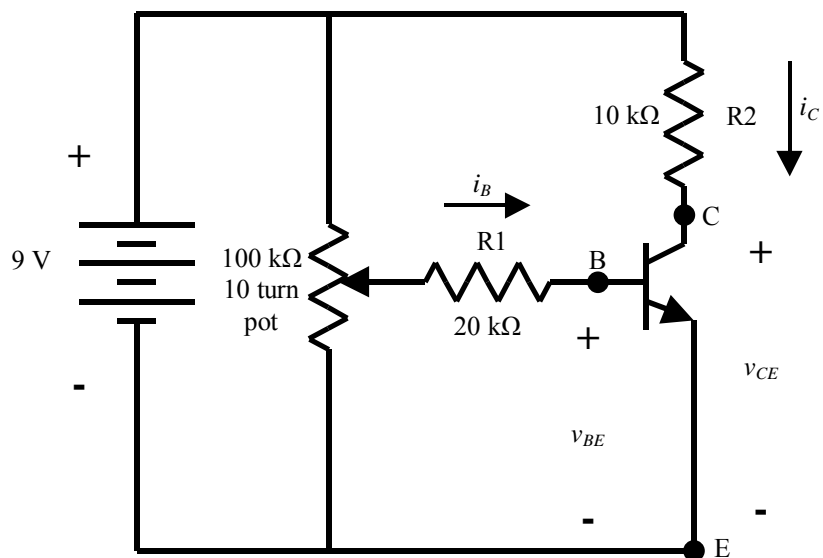

Figure P3-2 Transistor circuit.
a. (5 points) Construct the circuit of figure P3-2 using the bipolar junction transistor (BJT). Adjust the trim pot to obtain a voltage between the collector and emitter of the transistor, v_{CE} , of approximately 5 volts Measure and record the battery voltage, the voltage across